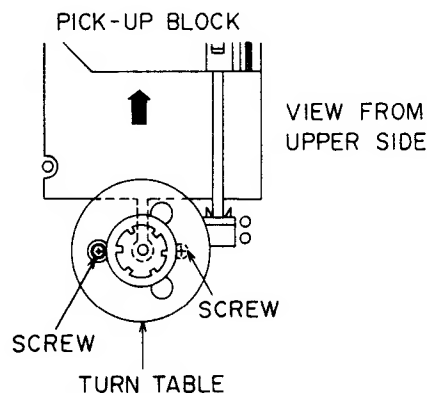

Fig. 3-5
- 2) Keep the PICK UP BLOCK away from the SPINDLE MOTOR (↑ direction as shown in Fig. 3-5).
- 3) Remove the two SPINDLE MOTOR fixation screws through the hole on the TURN TABLE (Fig. 3-5), then remove the SPINDLE MOTOR.